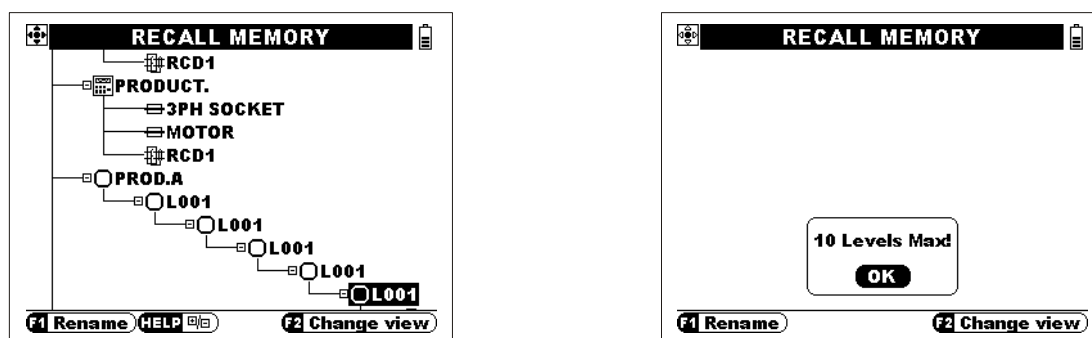

Figure 6.3: Sub-levels depth definition
- The tree structure is limited to 2000 locations with 10 levels in depth, see *figure 6.3*.